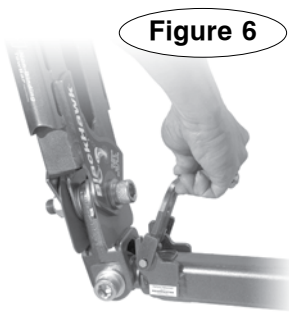

Figure 6
5. Push the release latch (Figure 6) forward, to bring both arms down to a horizontal position.